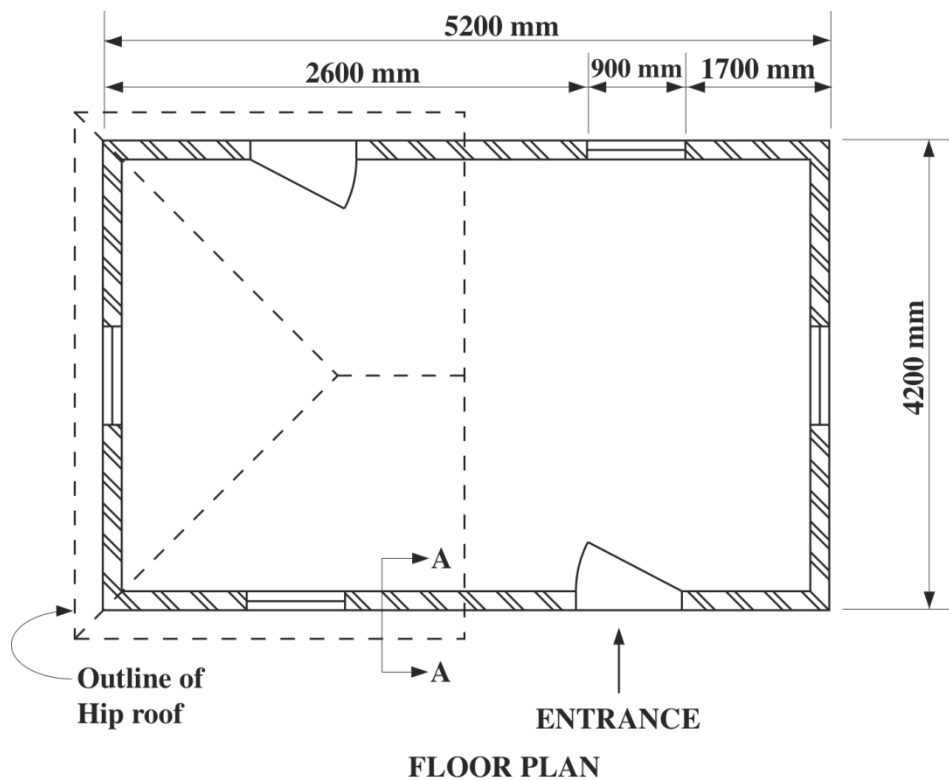

Figure 1. Floor Plan
1. Figure 1 shows the floor plan of a small building that is constructed with 150 mm hollow concrete block walls. The dimensions are as indicated on the plan. The floor is 100 mm thick reinforced concrete slab on grade. The building is covered with a hip roof which has a rise of 1.4 m and the rafters are placed at 400 mm centres. The overhang is 300 mm all around. The sizes of the members are as follows.
- (a) Produce a neat, labelled single-line sketch of the plan of the roof portion outlined in Figure 1. **(6 marks)**